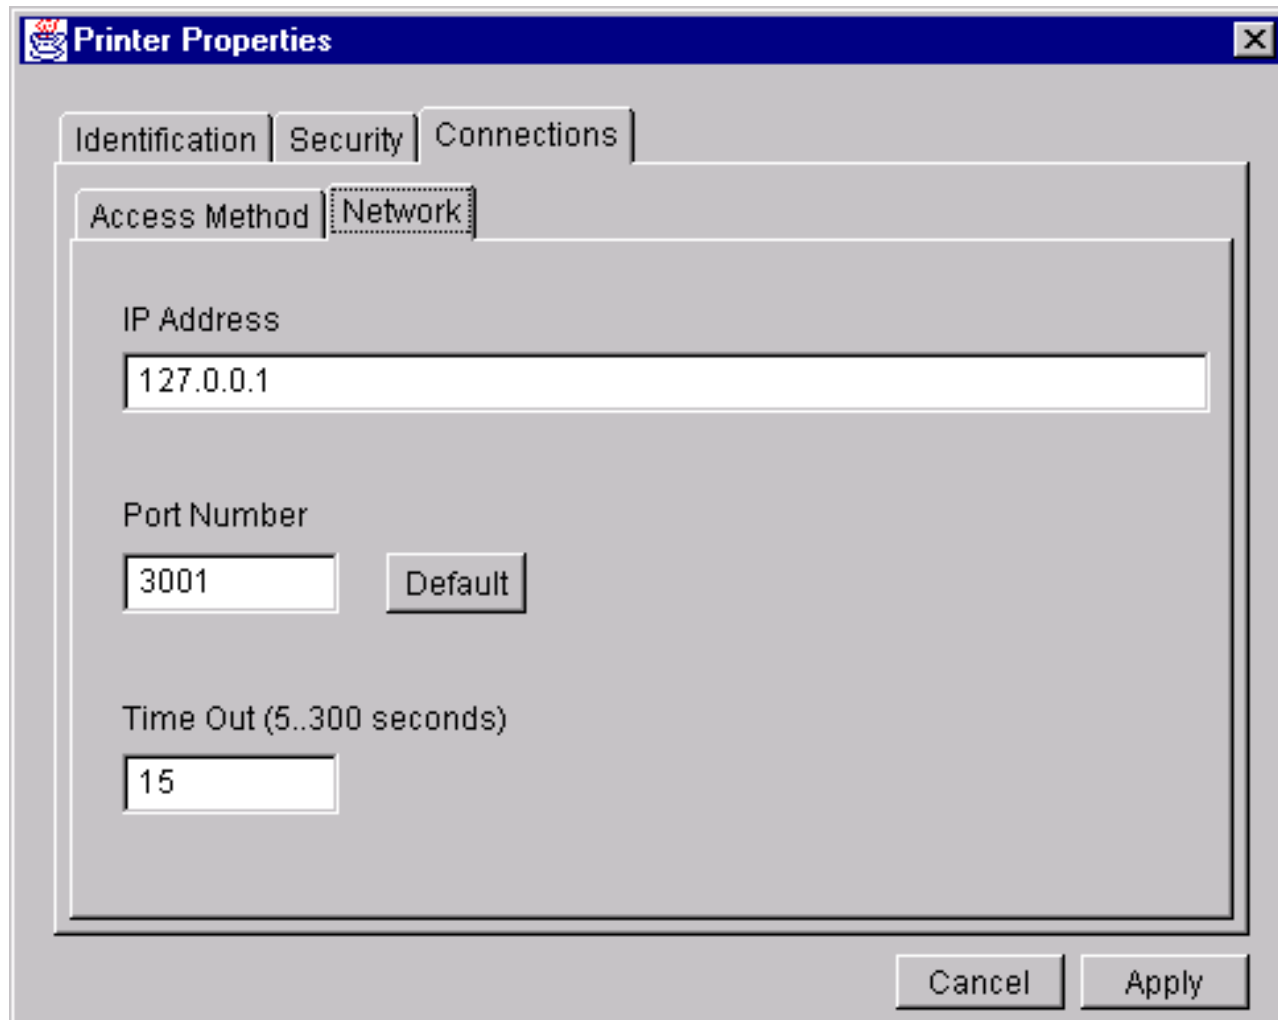

Figure 5. Network Options
See Figure 5.
- Click in the IP Address box. Input the IP Address of the printer you want to access. Follow the format shown in Figure 5.